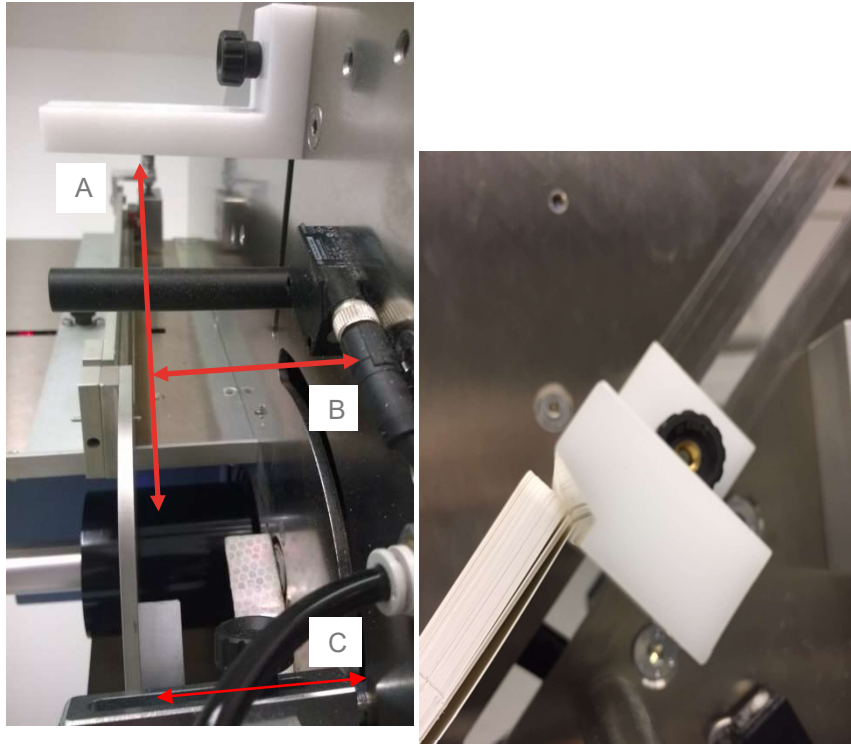

Fig. 5.3.1 – Label magazine
Adjust the vertical regulator (A) so that the upper end of the label rests in the lower part of the support (Fig. 5.3.1). When using larger labels, move regulator A right up and let them rest on the upper part of the support.
Adjust the vertical regulator (B) to get about 0.5 mm between it and the labels (Fig. 5.3.1).
- Move the arm into the pick-up position and adjust the position along axis **A** of the support to centre it on the label (Fig. 5.3.1)